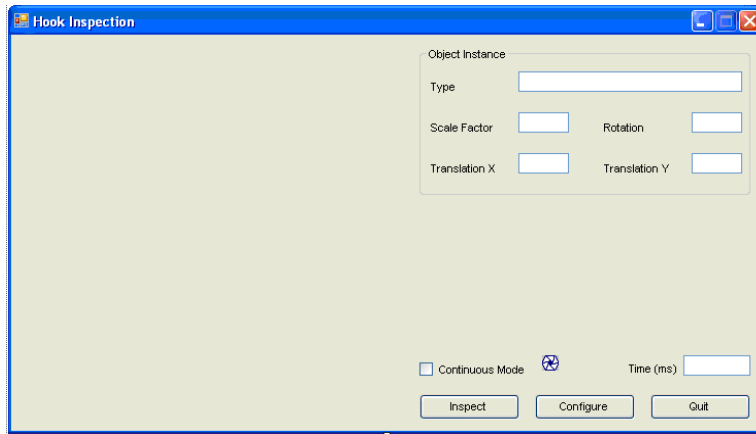

Figure 26 Resized VB .NET Form for Tutorial 2
1. Start by extending the form. Set the width to approximately 735 and the height to approximately 420. Reorganize the text boxes and buttons to look like the form in Figure 26.